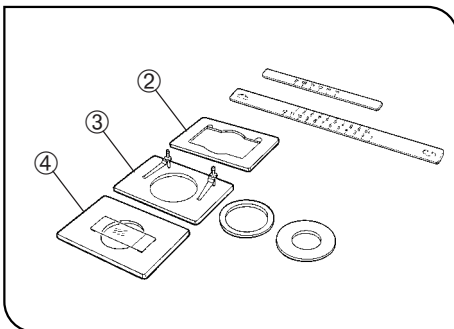

Fig. 15
⊙ To secure other vessels than microtiter plates, various optional holders are available. A Terasaki plate holder ② is available for holding Terasaki plates (72-well, or 60-well). When using this, it is necessary to replace the stage scales with those provided with the plate holder. Petri dish holder ③ is available for 35 mm, 54 mm and 65 mm diameter petri dishes, and a slide glass holder ④ is available for holding slide glass. (Fig. 15)